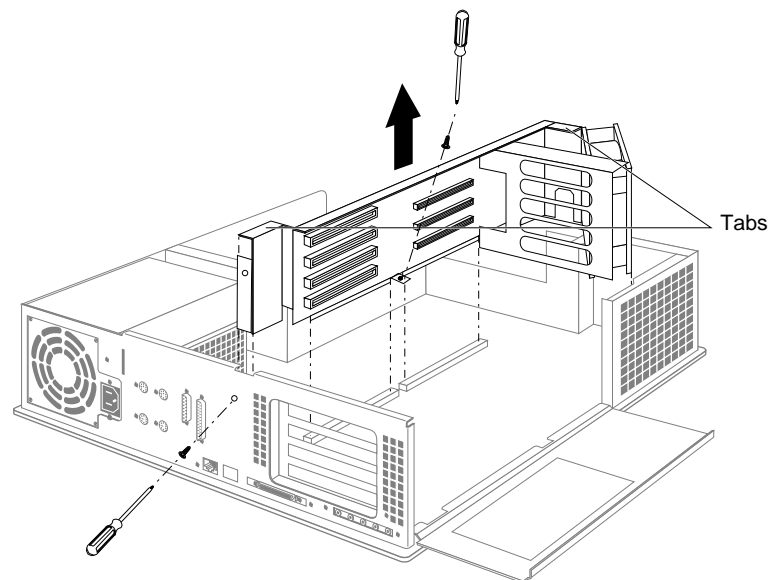

Figure 8-36 Removing the EISA Board Backplane From the Indigo² Chassis
7. Remove the EISA board backplane, as shown in Figure 8-36.